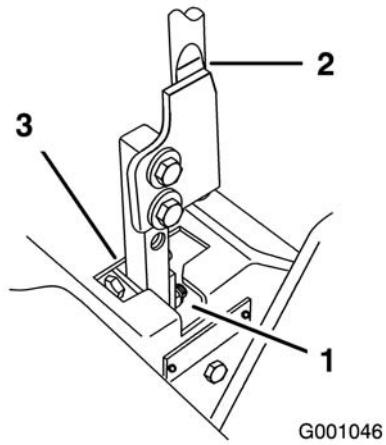

Figure 68
5. Move the lever to the neutral position but **not locked** (Figure 68).
6. Pull the lever back until the clevis pin (on arm below pivot shaft) contacts the end of the slot (just beginning to put pressure on the spring) (Figure 68).
- Check where the control lever is relative to notch in console (Figure 68). It should be centered allowing lever to pivot outward to the neutral lock position.